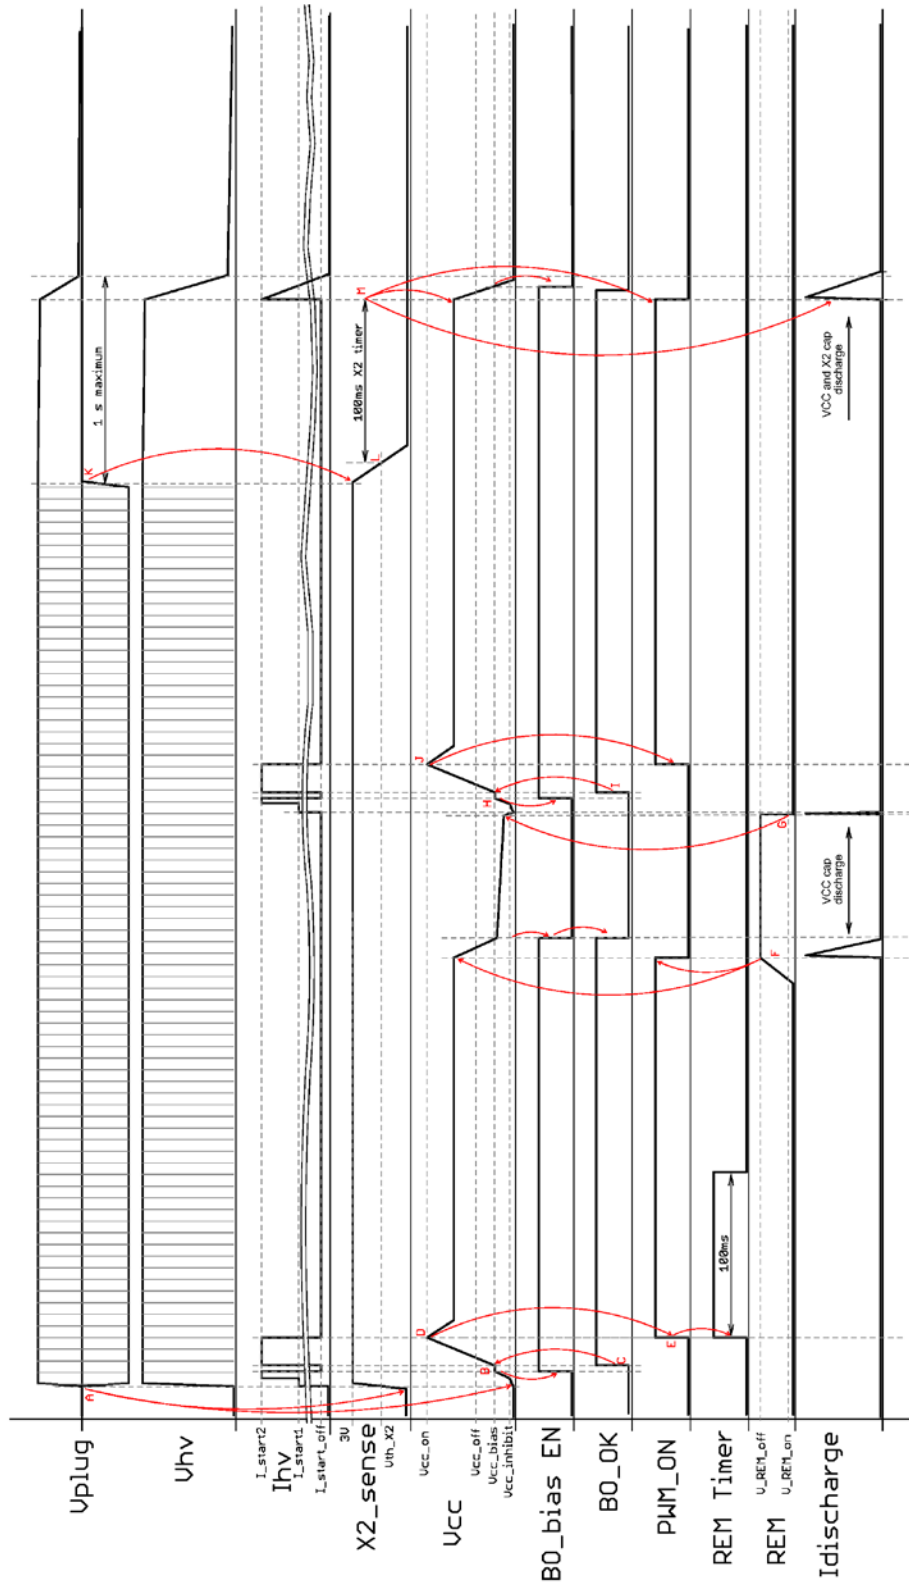

Figure 46. IC Operation Sequencing – Case 1 (Active ON)
1. Application start, remote off/on then AC line off – Figure 46: